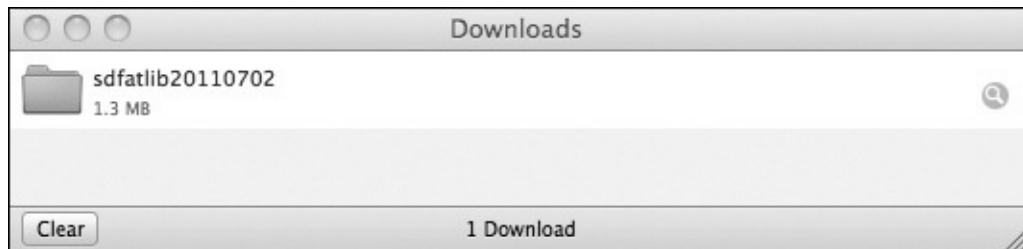

Figure 8-16. Library file in the Downloads folder
1. Open the *Downloads* folder on your Mac and find the downloaded *.zip* file, as shown in Figure 8-16.